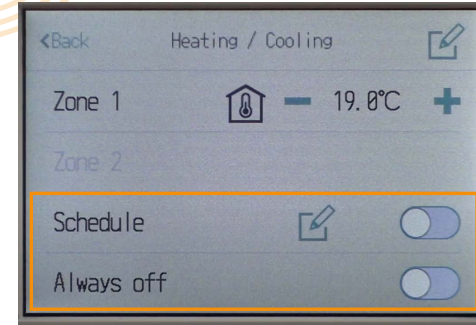

figure 8
12. Set the 'Schedule' toggle to OFF (figure 8).
13. Set the 'Always off' toggle to OFF (figure 8).